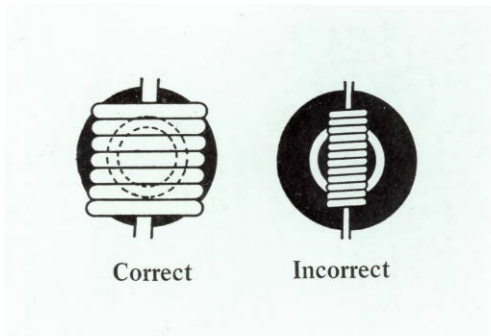

Fig. 20
- Even though a heat absorption filter is built in the illuminator, it is necessary to use an additional heat absorption filter when observing a living specimen. The filament of the illuminating lamp in this case should be adjusted so that its sharp image fully covers the phase-contrast annular aperture diaphragm to give a sufficient brightness, especially for photomicrography. (Fig. 20)